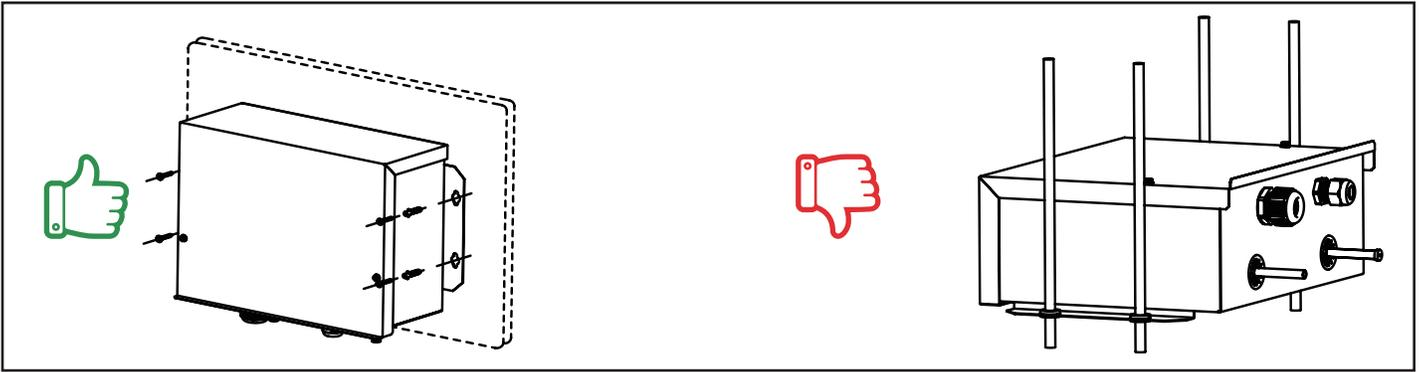

Figure 3. Position the Control Box Vertically when the Electronic Expansion Valve is in the Box
- AHU Control Kit Box shall be installed vertically when the electronic expansion valve is inside the box. See Figure 3.